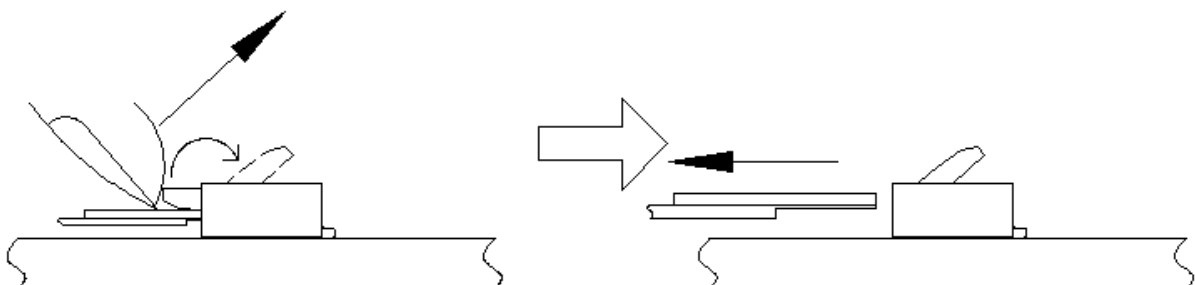

Figure 5.
- 10) Lift up the actuator(Lock). Carefully withdraw the FPC/FFC. (see figure 5).